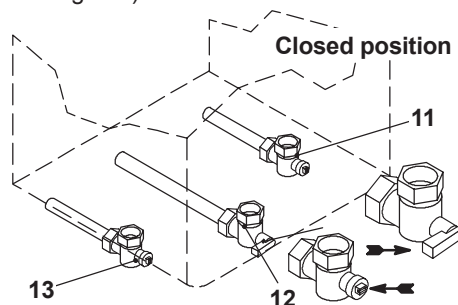

Fig. 9.3
- Close the C.H. isolating valves (13 and 11 in Fig. 9.3).